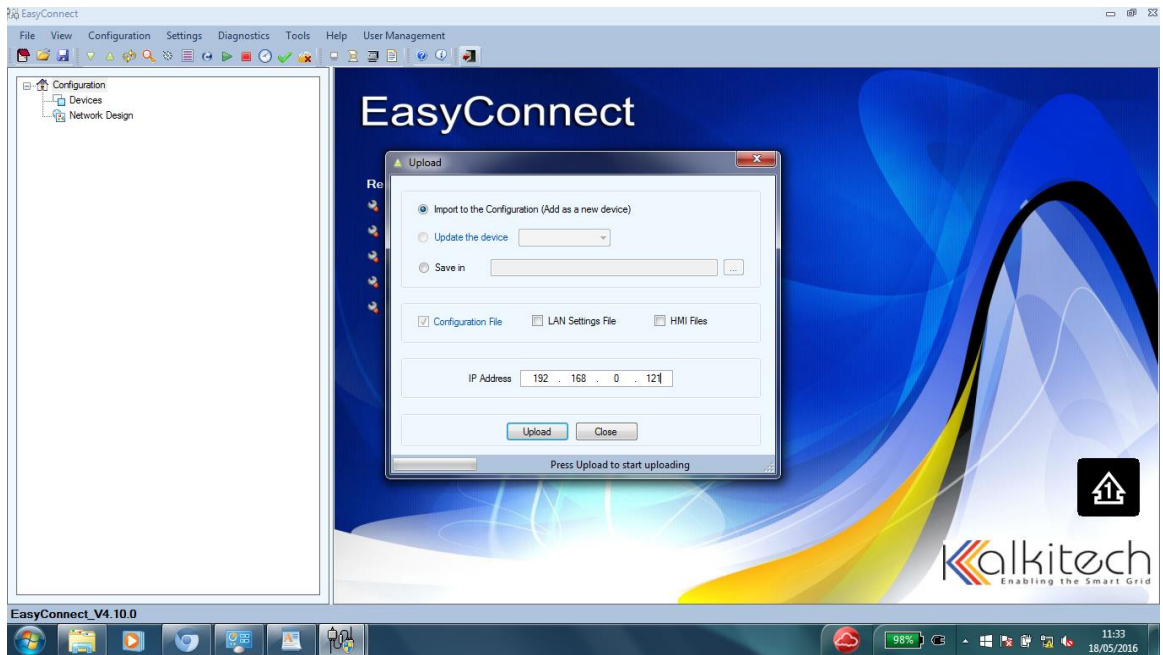

Figure E-13: Upload Kalkitech module settings
- In the Upload dialog box, type the IP address (the default is 192.168.0.121), uncheck the LAN settings box and click the **Upload** button as shown in Figure E-13.